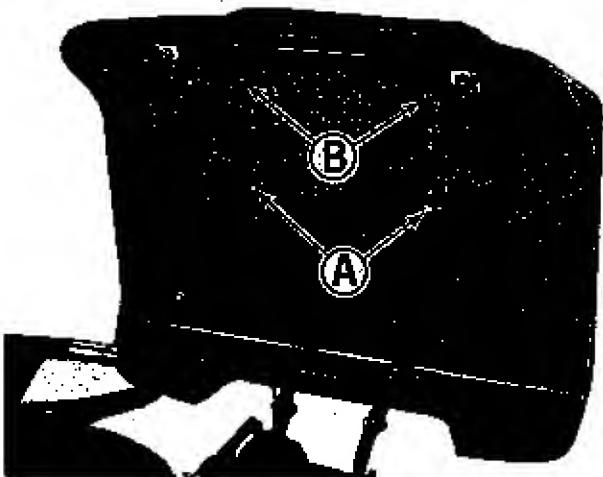
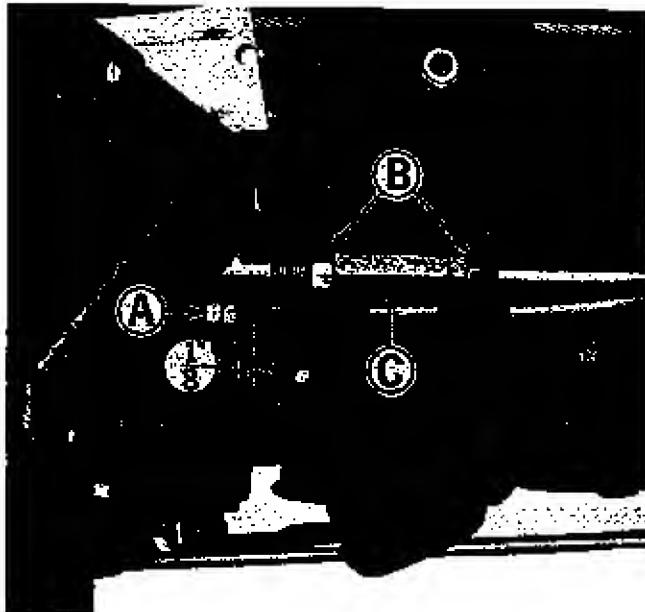
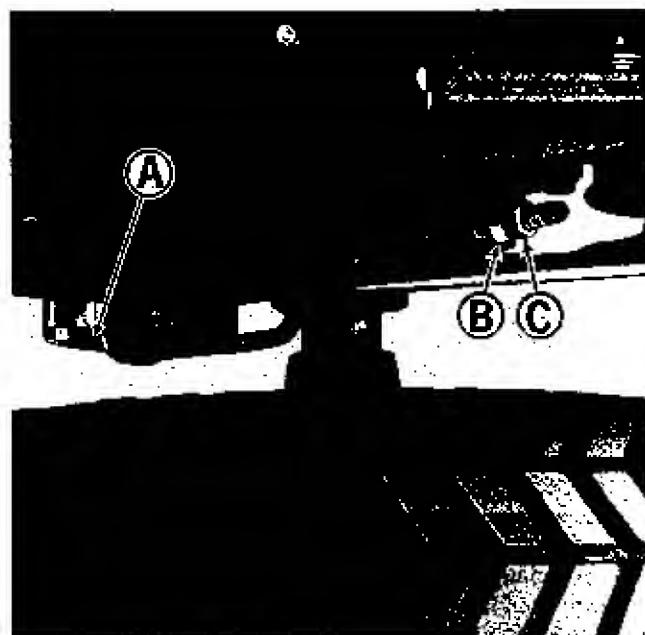

Figure 10. Seat deck raised.
Figure 11. Clutch free travel and hydrostatic transmission neutral adjustment.
Figure 12. Brake adjustment near right rear wheel.
locks out raise the seat deck as shown in figure 10. Raising the seat deck in this manner will expose many of the transmission adjustment and maintenance areas.
See figure 10. The tractor seat is properly adjusted when the operator can comfortably operate the clutch and brake pedal while sitting back in the seat. The seat can be adjusted forward or back in any of four positions. If adjustment is required, proceed as follows:
1. See figure 10. Position the seat deck as shown by following the instructions under Raising the Seat Deck on page 10.
2. Remove the two cap screws and lock washers at (A).
3. Remove the two nuts and lock washers at (B).
See figure 11. The clutch free travel is correct when there is $1/8"$ between the nuts (A) and the rod guide when the clutch brake pedal is released and pulled rearward as far as
1. Raise the seat deck as shown in figure 10, by following the instructions under Raising the Seat Deck on page 10.
2. Using two wrenches hold the forward nut at (A) stationary with one wrench while turning the rearward nut counter-clockwise slightly with the other to separate them.
4. Turn the forward nut at (A) as necessary so that the distance between it and the rod guide is $1/8"$ as shown in figure 11.
5. Using two wrenches hold the forward nut at (A) stationary while turning the rear one clockwise to tighten the two nuts together securely.
3. See figure 11. Loosen the two locking nuts (B) on either end of turnbuckle (C).
Use an open end wrench to rotate the turnbuckle (Figure 11, item C) until the brake drum (Figure 12, item A) does not rotate. When the brake drum does not rotate when the engine is running at $1/3$ full speed, the hydrostatic neutral adjustment is correct.
8. See figure 11. After allowing the belt and pulleys to stop turning, use two wrenches to tighten the locking nuts (B) against turnbuckle (C). Tighten the locking nuts (B) one at a time, while using the other wrench to hold turnbuckle (C) from rotating.
2. See figure 12. Use one open end wrench to hold nut (B) stationary, and another wrench to turn nut (C) counter-clockwise to loosen it slightly.
3. Turning nut (B) clockwise will give more braking action and turning it counter-clockwise will give less. The brake adjustment can best be made by using the trial and error method, and operating the tractor each time an adjustment has been made. The best adjustment can be made by turning nut (B) counter-clockwise until the foot pedal brake does not work. Then turning it clockwise, one turn at a time, until the tractor will stop satisfactorily when rolling backward. This is the correct adjustment. Further tightening may cause the brake to drag, or prevent proper clutch disengagement.
4. After you are satisfied that the adjustment is correct use one wrench to hold nut (B) stationary and another to turn nut (C) clockwise to tighten the nuts securely together.